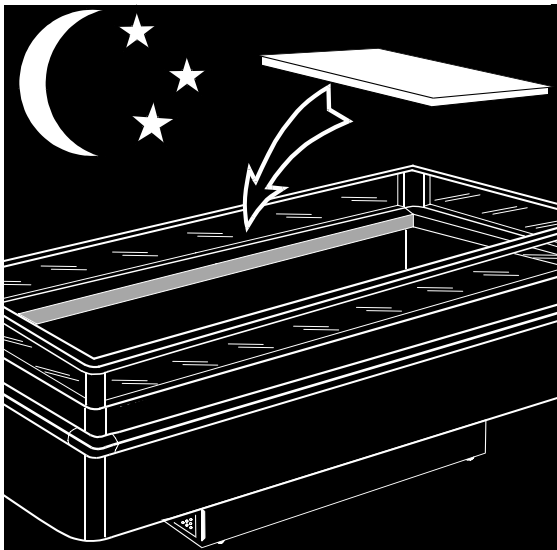

fig. 12
- using night covers or sliding panels, if any are installed, during closing hours (fig. 12): this avoids unnecessary energy consumption and helps better product preservation;